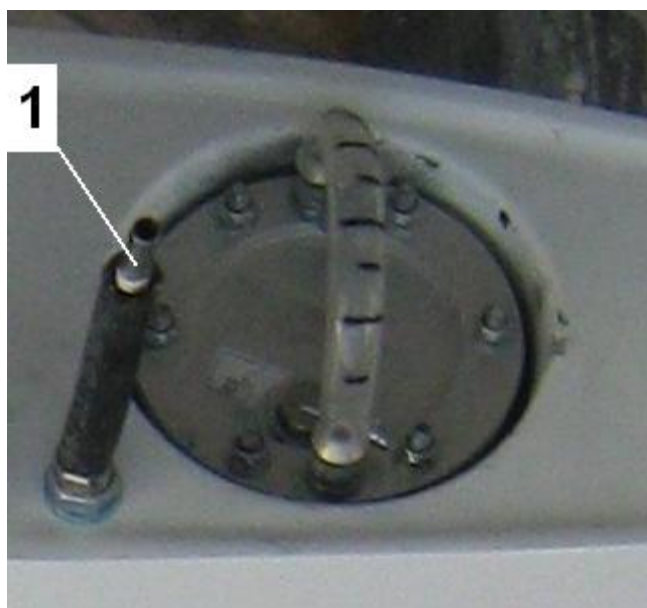

Fig. 16
17) Fuel hose is attached to the connection 1, Fig. 16.